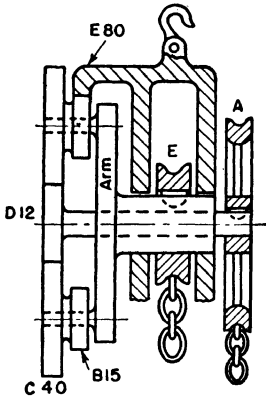

Fig. P 11.14
11.14. In Fig. P 11.14, the diameter of the hand-chain sprocket *A* is 14 in. and the diameter of the hoisting chain sprocket *E* is 5 in. Determine the mechanical advantage of the hoist.